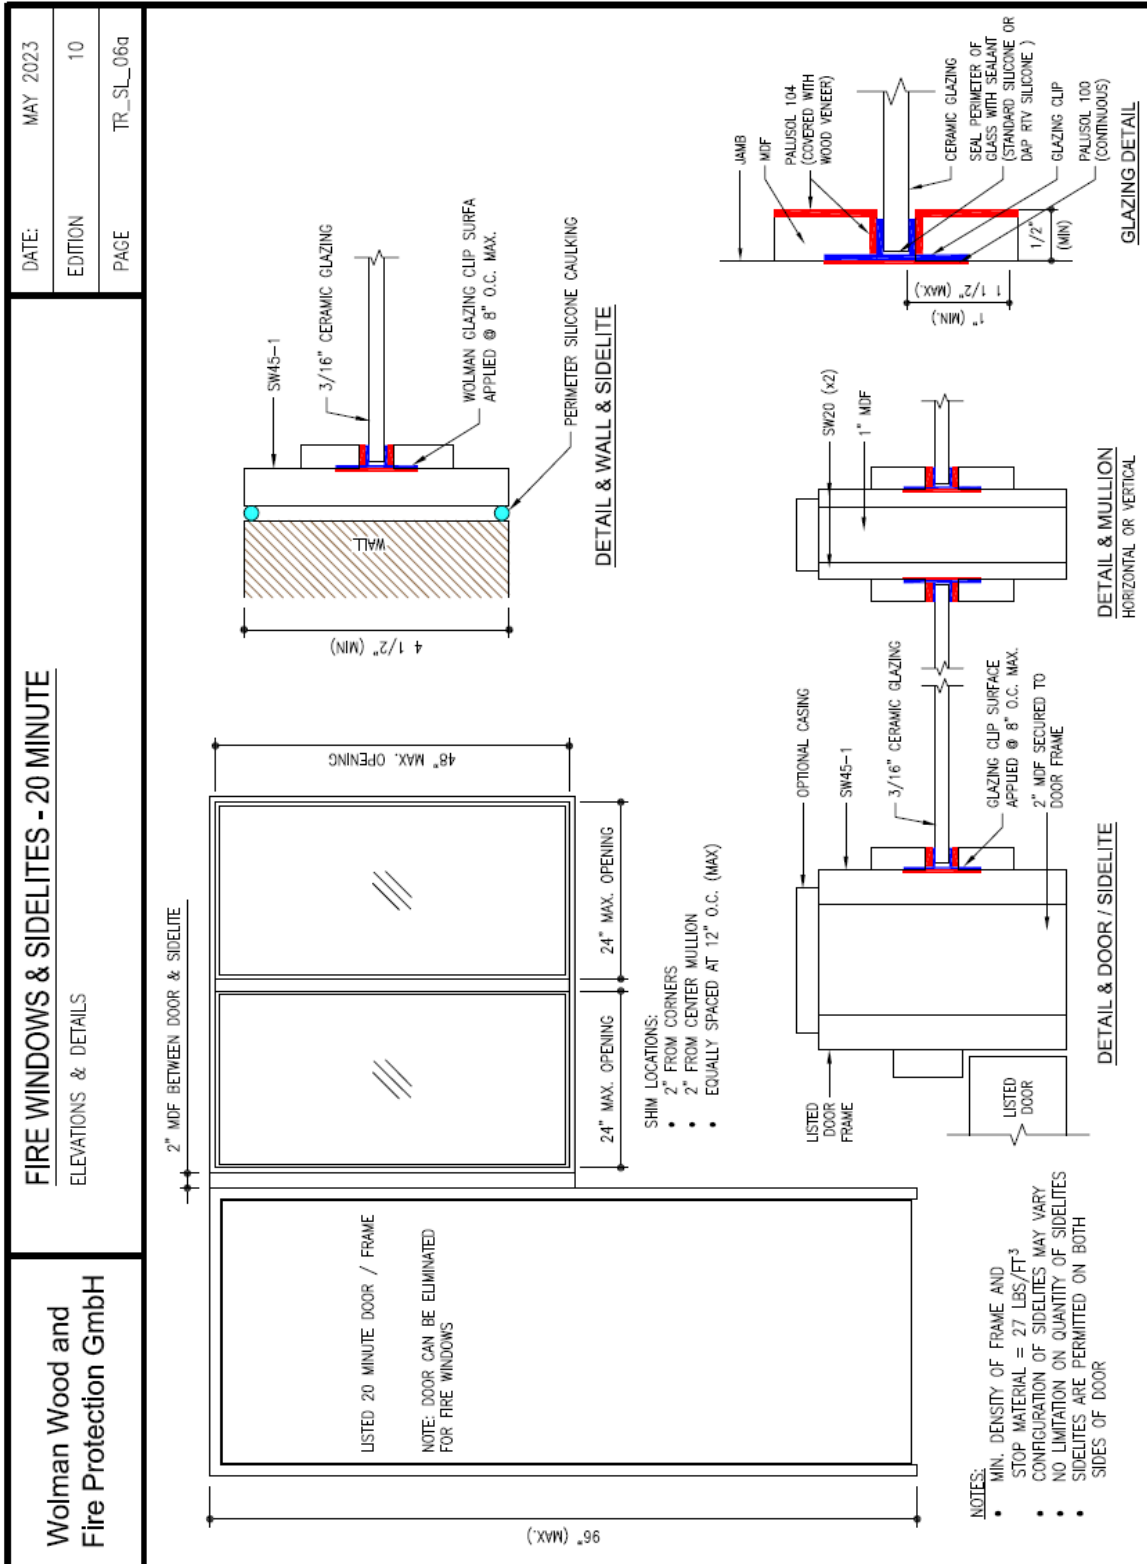

Figure 4: Sidelights with direct set glazing using clip system
One Layer of SW 45-1 Core: (See Figures 4,5)
- Glazing installed in accordance with the installation instructions outlined below and on Figure 4.
- Maximum window opening 24" x 48" (Width x Height) with Wolman vision kit using Listed 3/16" ceramic glazing [See Figures 4 and 5].